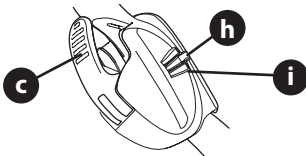

Figure 5
**IMPORTANT!** When locking the EZ-fold handle release lever (c) ensure the position indicator (h) aligns with one of three handle positions (i) (Figure 5).